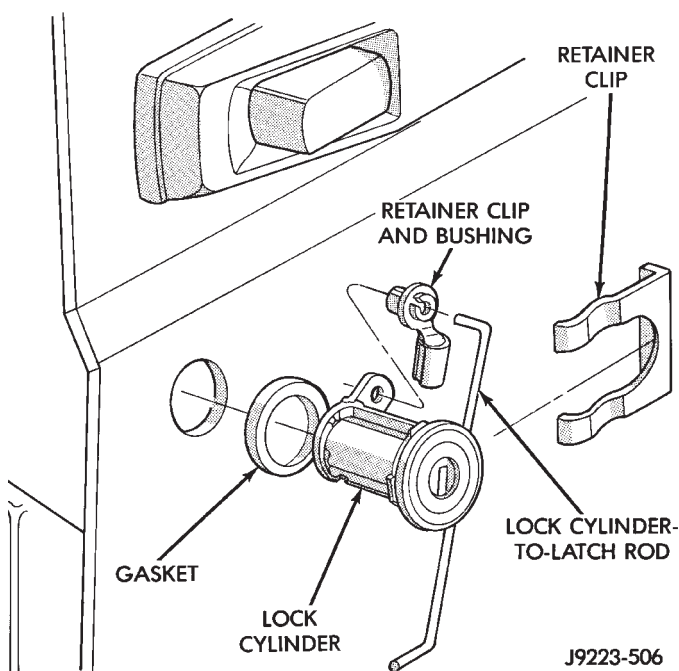

Fig. 13 Key Lock Cylinder Removal/Installation
lock cylinder, gasket and clip from door (Fig. 13).
- (5) If applicable, remove door latch lock cylinder rod from original lock cylinder. Connect it to replacement lock cylinder (Fig. 13).